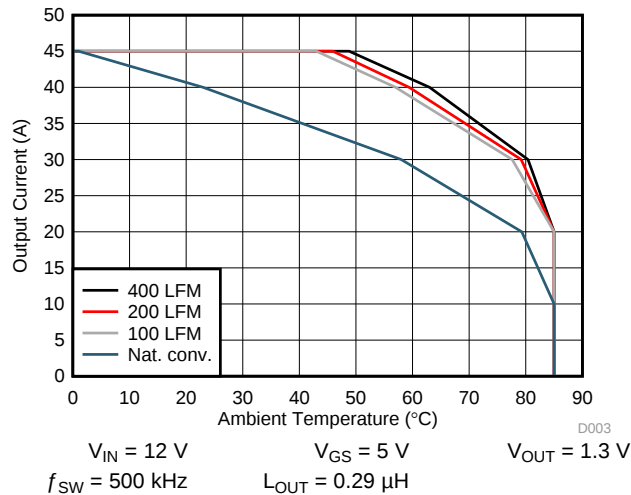

Figure 3. Safe Operating Area (SOA) – Thermal Airflow Measurement PCB Vertical Mount
$T_J = 125^\circ\text{C}$, unless stated otherwise. The Typical Power Block System Characteristic curves Figure 3, Figure 4, and Figure 5 are based on measurements made on a PCB design with dimensions of 4" (W) $\times$ 3.5" (L) $\times$ 0.062" (H) and 6 copper layers of 1-oz. copper thickness. See Application and Implementation for detailed explanation.
The SOA curves in the CSD87355Q5D data sheet provides guidance on the temperature boundaries within an operating system by incorporating the thermal resistance and system power loss. 图 3 to 图 4 outline the temperature and airflow conditions required for a given load current. The area under the curve dictates the safe operating area. All the curves are based on measurements made on a PCB design with dimensions of 4" (W) × 3.5" (L) × 0.062" (T) and 6 copper layers of 1-oz. copper thickness.